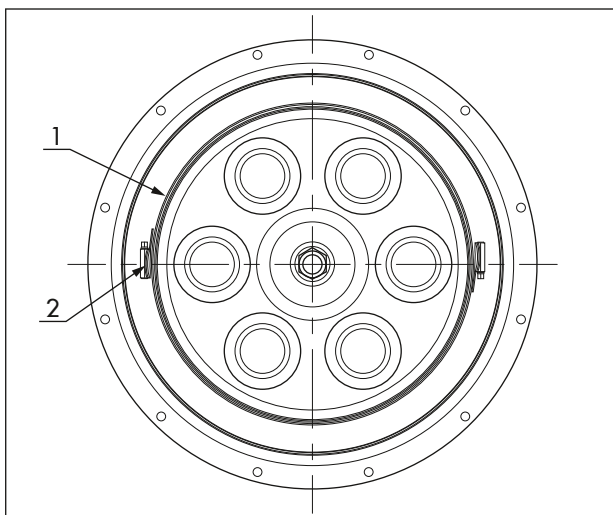

Fig. 14: Aligning the latch of the hose clamp
6. Completely open two new hose clamps (A6) and adjoin them to make one single clamp (see Fig. 14).
9. Place and align the compressors (A19) beneath the clamps' latch (see Fig. 14).
8. Completely open two new hose clamps (A6) and adjoin them to make one single clamp (see Fig. 14).
11. Place and align the compressors (A19) beneath the clamps' latch (see Fig. 14).